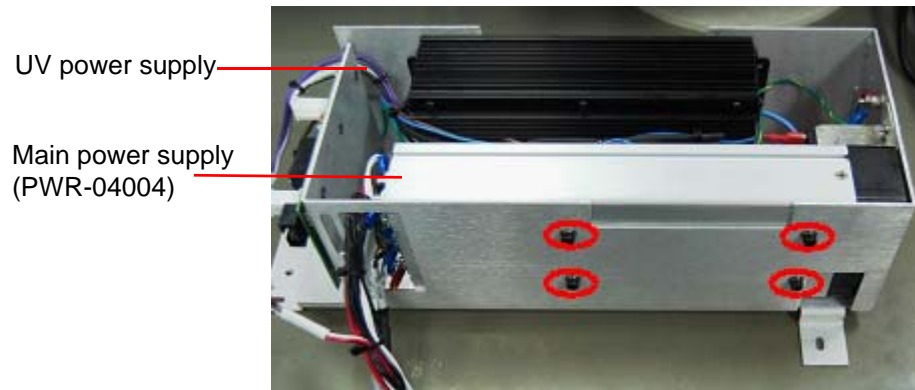

Figure 133 Power Supply Housing
20. Secure the power supply to the metal housing with the four screws (Figure 133).